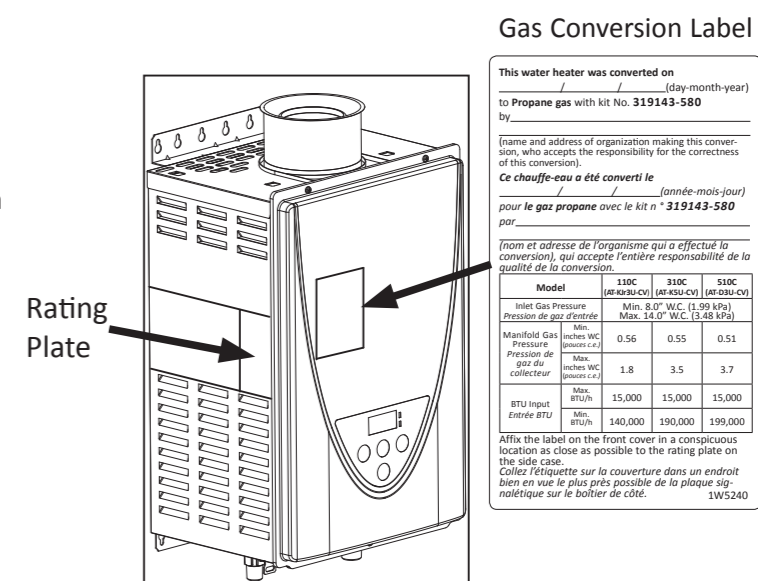

Figure 4
- Fill out all items on the gas conversion sticker with a permanent marker. Affix the label on the heater as shown in Figure 4.